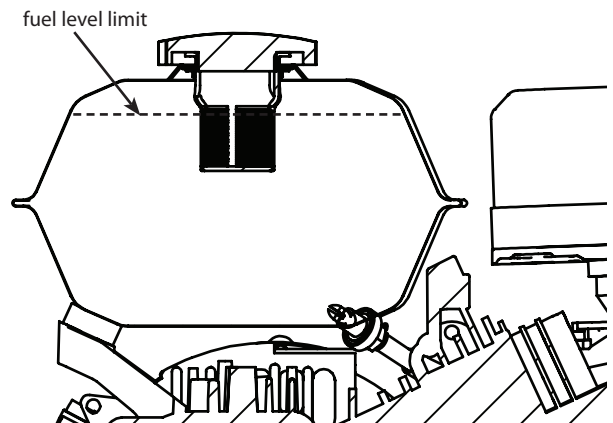

Figure 2
3. Fill tank to fuel level limit. **SEE FIGURE 2.**